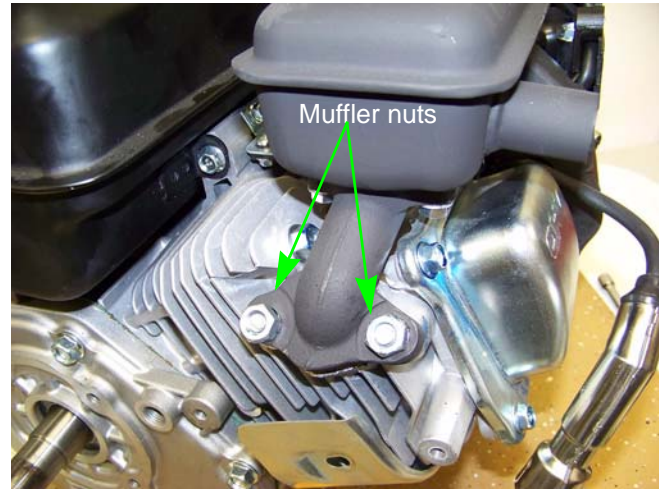

Figure 8.8
3. Remove the two muffler nuts using a 13mm wrench and lift the muffler off of the engine. See Figure 8.8.